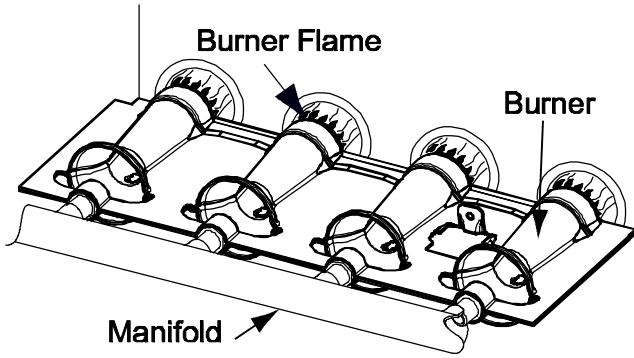

Fig. 61 - Burner Flame
- i. When correct input is obtained, replace cap that conceals gas valve regulator adjustment screws. Main burner flame should be clear blue, almost transparent See Fig. 61.